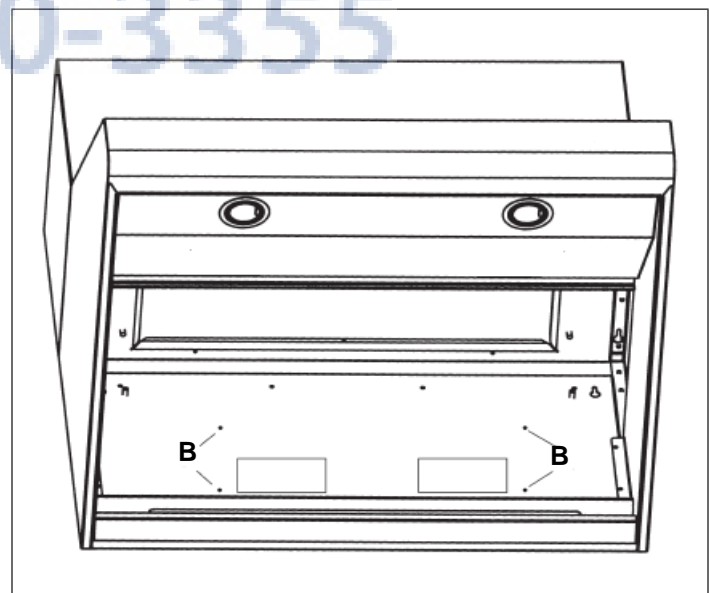

Figure 15: Weld Stud Locations
2. Figure 15 shows the weld studs in location B for horizontal (rear) discharge. Attach (4) nuts (included with hood) to the weld studs. For vertical discharge, attach nuts to studs at the top of the mounting plate.